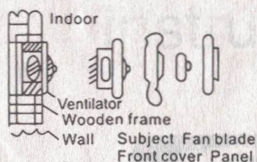

Figure 1
1. fan installed in the reserved hoie wall, door leaf from the ground 2.3 meters high, motor, shaft should be parallel to the ground. As shown in figure 1